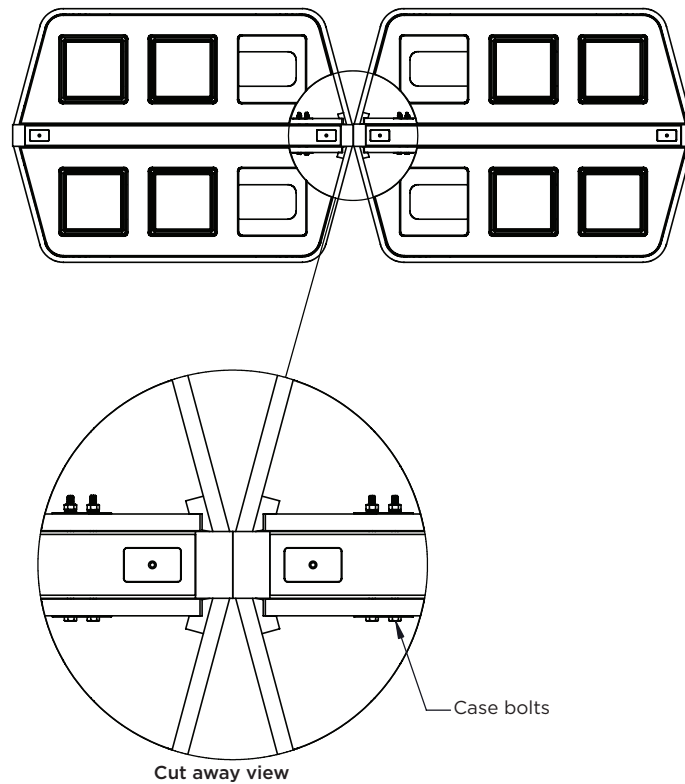

Figure 4F
4. If additional adjustment is needed to align the case edges, the case bolts (**Figure 4F**) can be loosened for alignment. These case bolts must be tightened after adjustment.